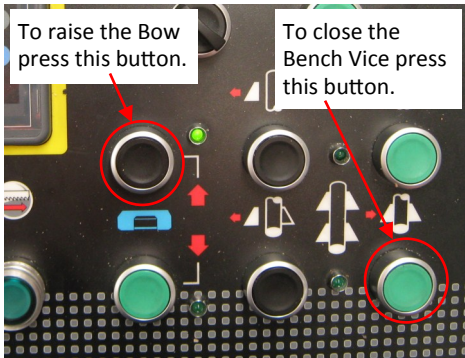

FIG 9.
c) Close the Bench Vice. Refer to Fig 9. The following operational lamps should be on before calibration.